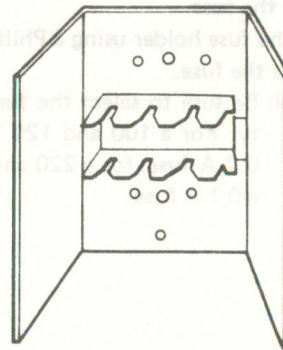

Figure 10 – PC Board Retainer.
(2) Mounting the casing (see Figure 10)